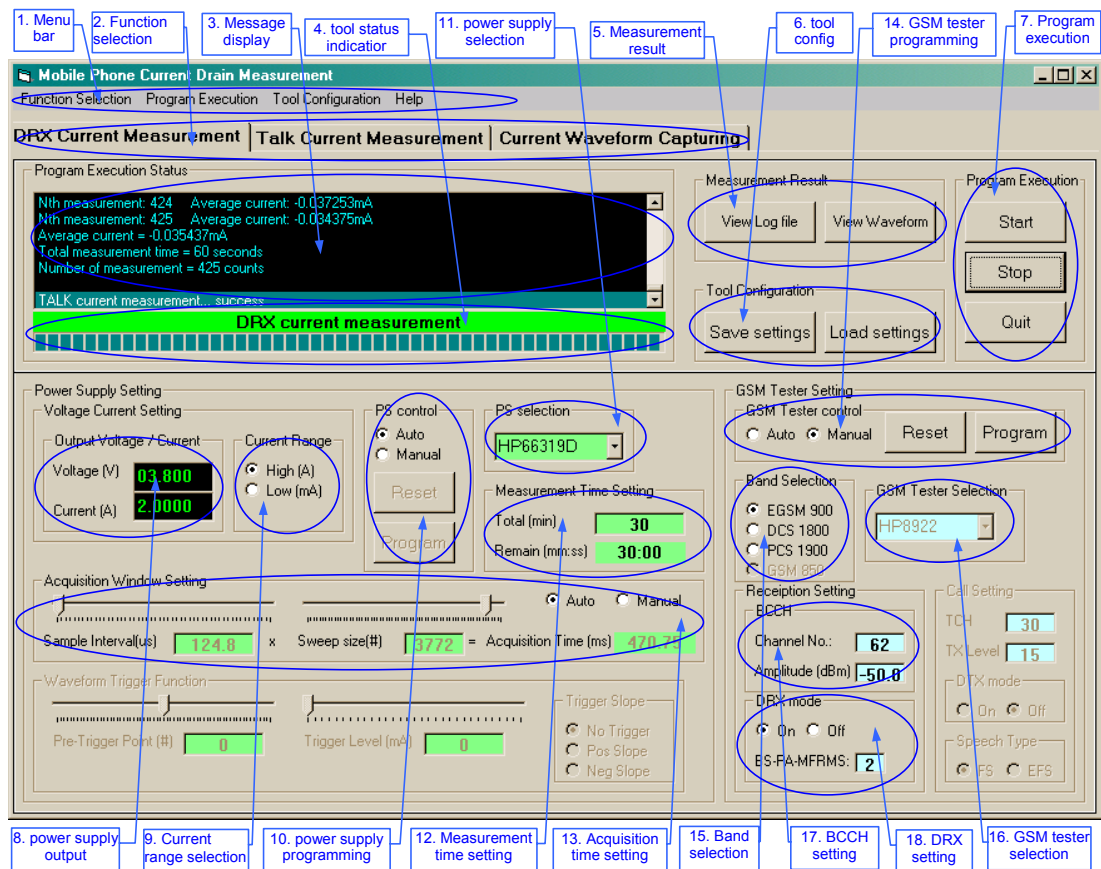
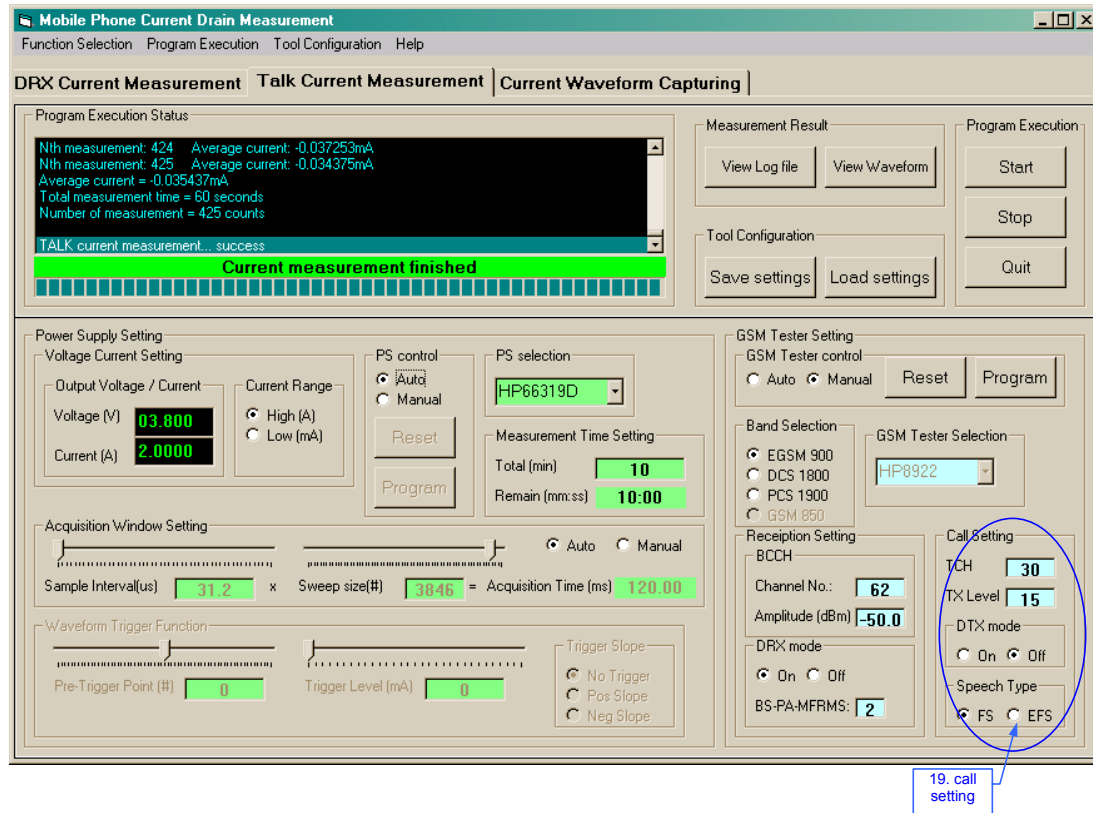
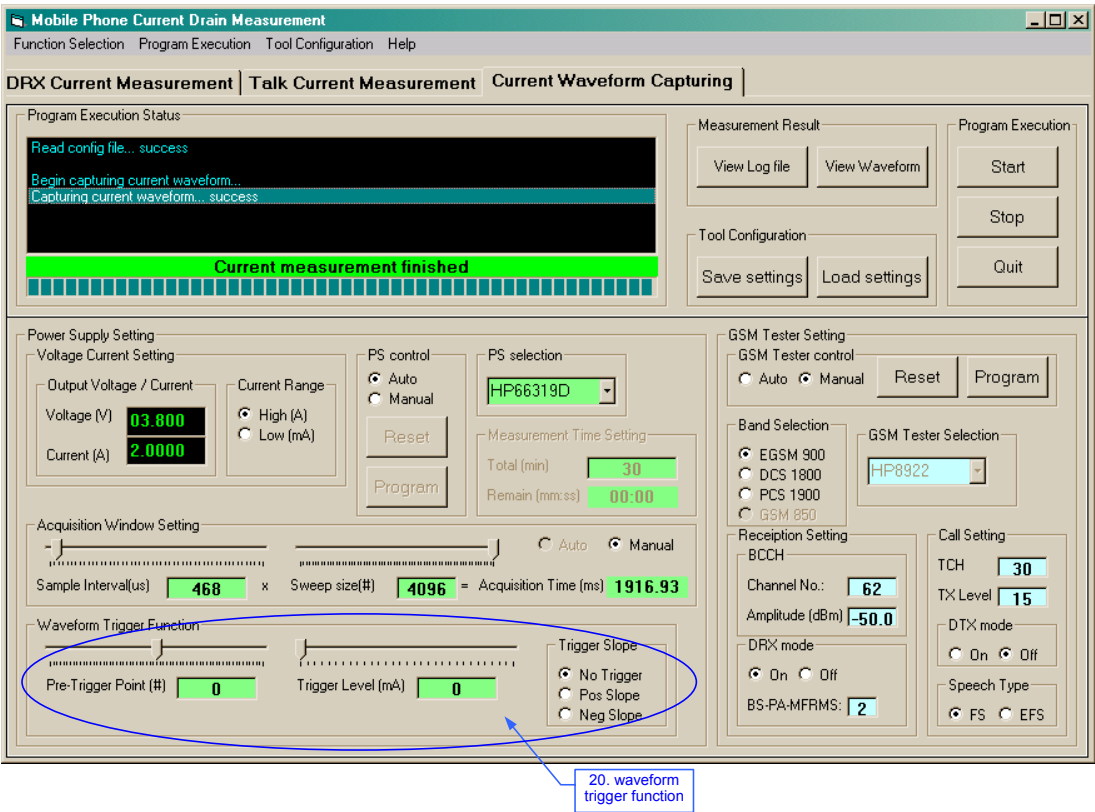

Figure 11. Standby Current Measurement User Interface
Figure 12. Talk Current Measurement User Interface
Figure 13. Current Waveform Capture User Interface
Figure 11, Figure 12, and Figure 13 show the windows of each function of the DRX Current Measurement. Most parameter items are common to the three functions, but with some particular items dedicated for particular functions. For example, item 19: **Call Setting** is only available for the **Talk Current Measurement** function. Item 20: **Waveform Trigger Function** is only available for the **Current Waveform Capture** function.